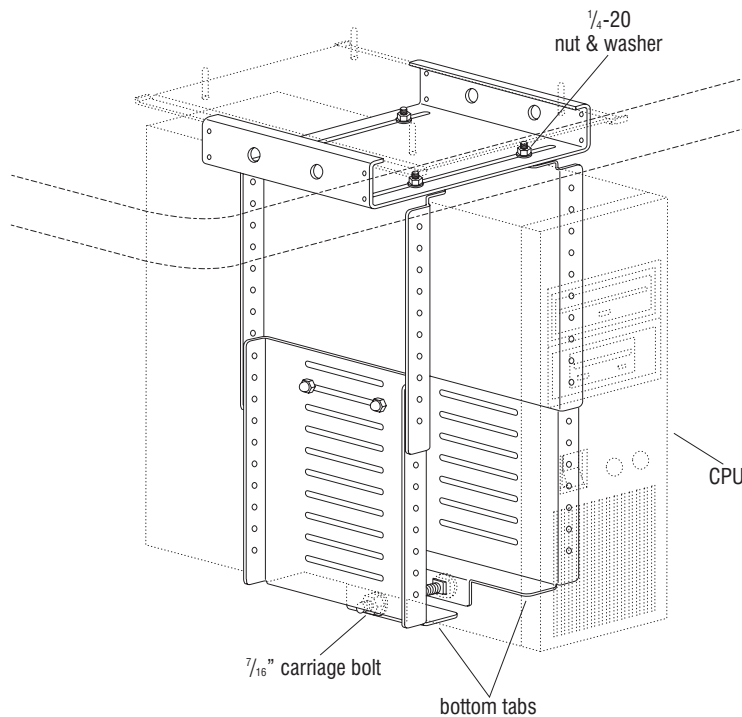

Figure 4
8. Slide the CPU between the side panels and allow it to rest on the bottom tabs. Center the CPU front to back. For 24" deep worksurfaces, the CPU must be 1 1/2" forward of center (Figure 4).
9. Press the side panels tightly against the CPU. Tighten the four 1/4-20 nuts on the slotted bracket and tighten the nut on the bottom carriage bolt (Figure 4).